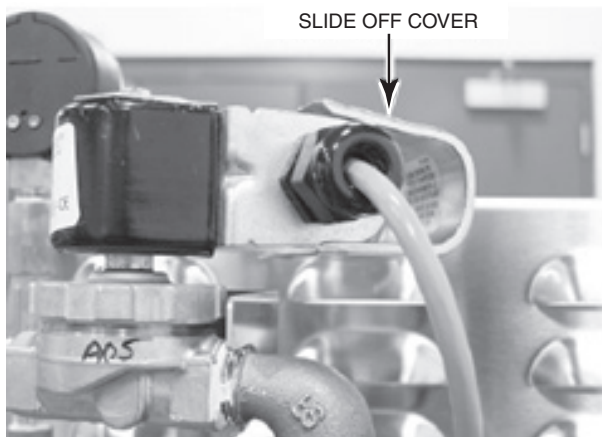

Fig. 16
3. Disconnect one electrical lead at hot fill solenoid valve coil located at the top rear of unit by sliding the coil cover off and disconnecting one of the coil wires (Figs. 16 & 17).